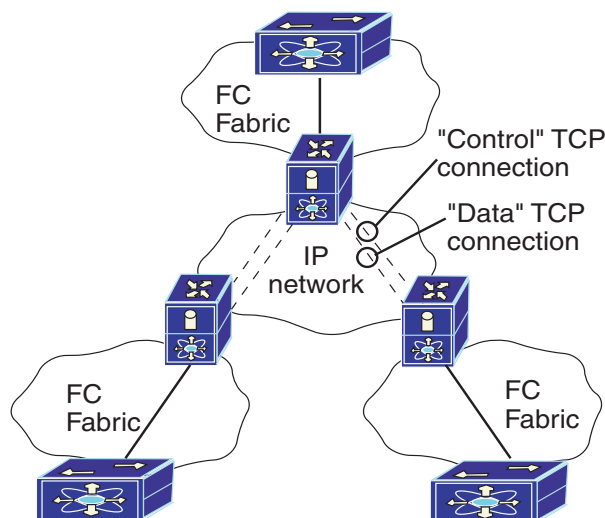

Figure 66: FCIP Scenarios
- FCIP-FCIP transports Fibre Channel frames transparently over an IP network between two C-Series MDS 9000 Family switches. Figure 66 depicts the FCIP scenarios in which the IPS module is used.